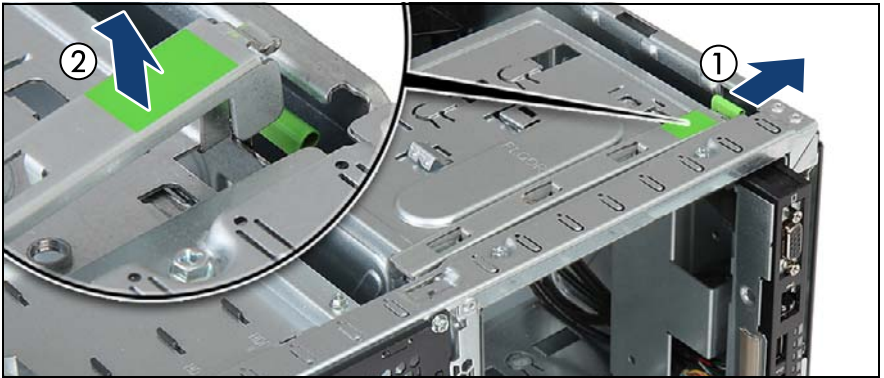

Figure 196: Opening the accessible drive locking bar
- ▶ Press out on the locking latch to disengage the accessible drive locking bar (see figure 196).